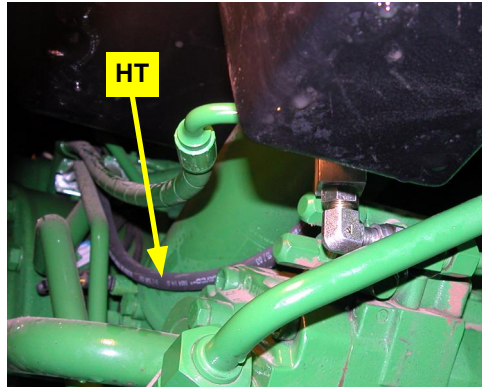

Figure 8b: Routing LS hose from steering block to load sense shuttle
- c. Route the load sense hose **HT** down to the open connection on the load sense shuttle (**HO** or **HP**). Route the hose down the side of the tractor and secure it to other rigid plumbing. Make sure all hoses are routed properly and free from entanglement (Figures 8b).